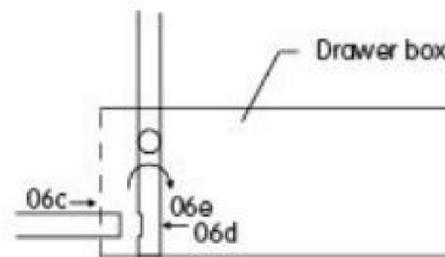

Fig. 6
- 6c\_Position broom 5K (Fig. 6).
- 6d\_Connect brooms 5E and 5F to 5K (Fig. 6).
- 6e\_Rotate through 90 degrees (Fig. 6).